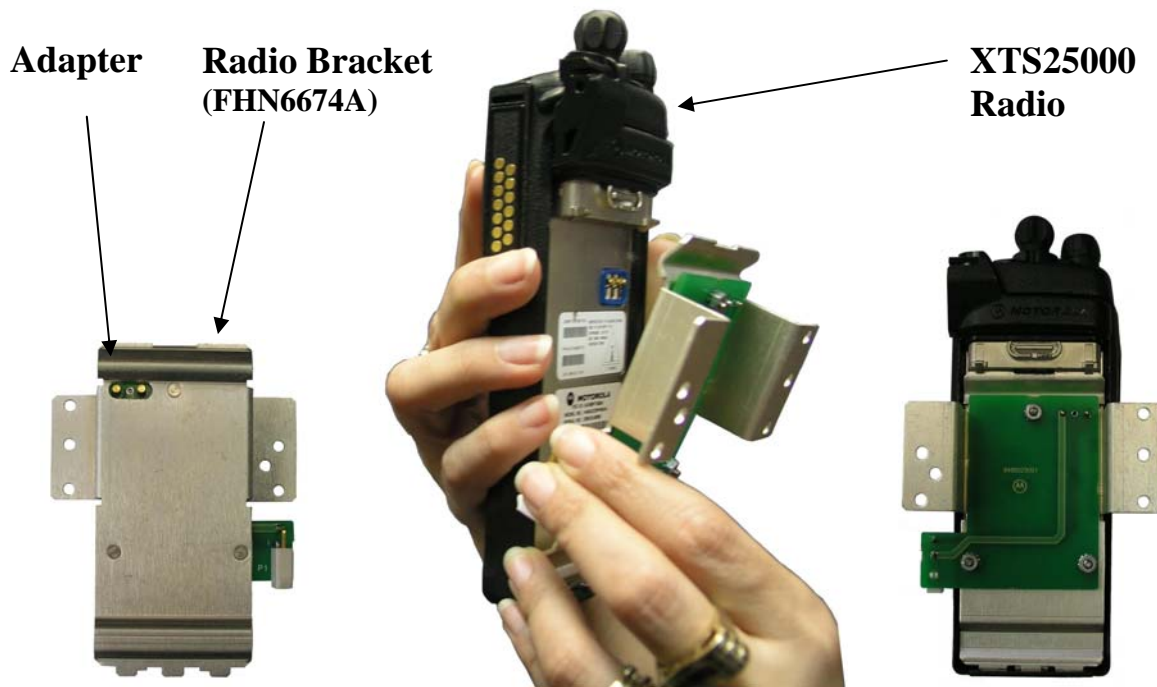

Figure 21-9 XTS2500 Radio and Metal Bracket
1. Attach the XTS 2500 radio to the radio bracket (from FHN6674A). (See Figure 21-9.)